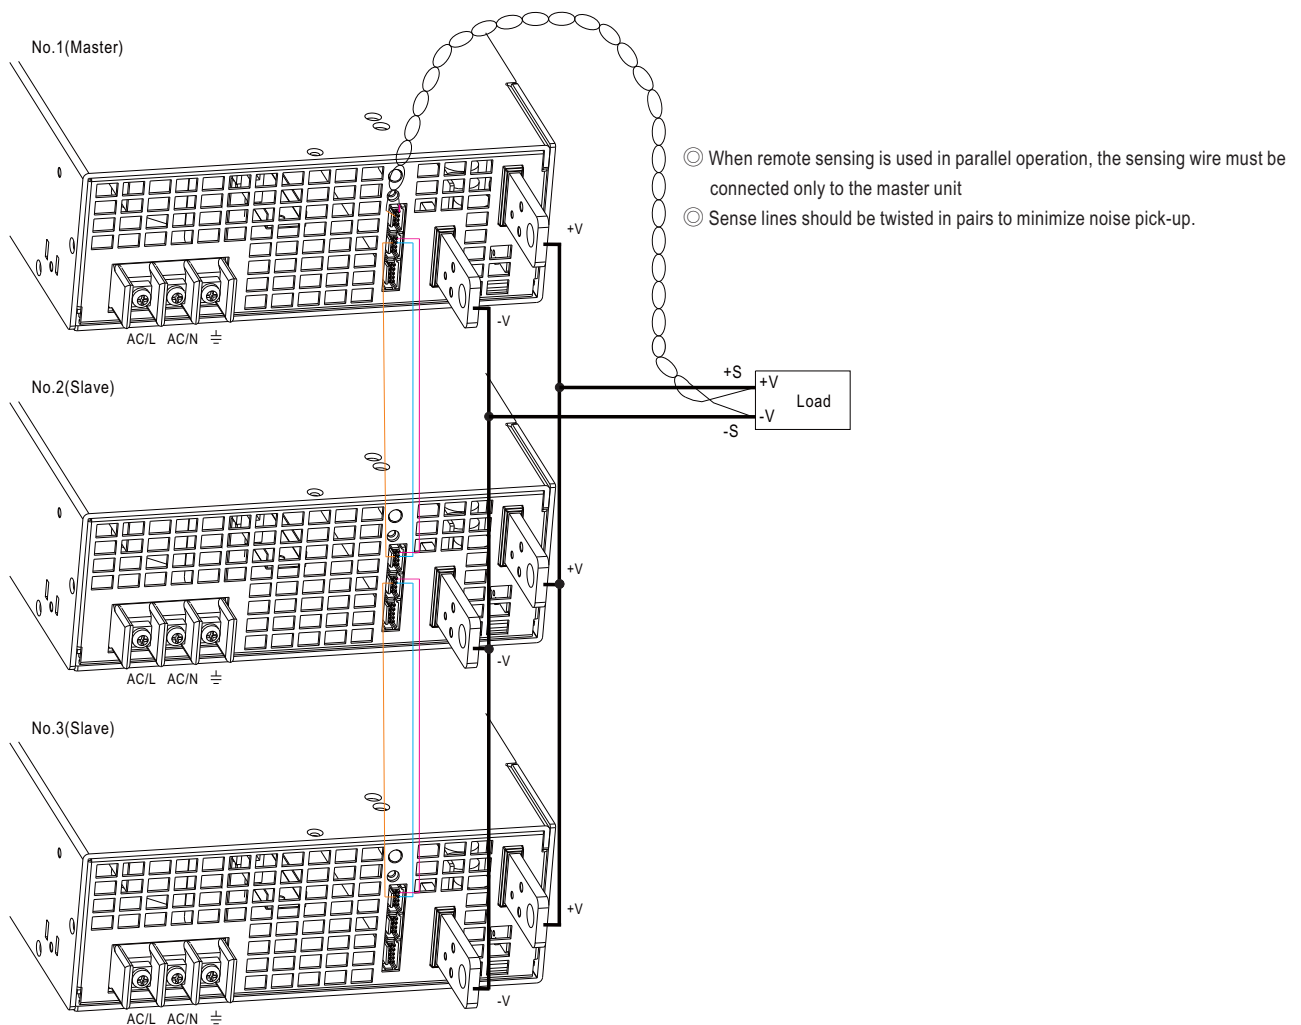

Fig. 5.2 Remove the CN3
- (2) Remove the shorting connector on CN3 that is shown in Fig 5.2, the Overload Protection Type will be "continuous constant current limiting".